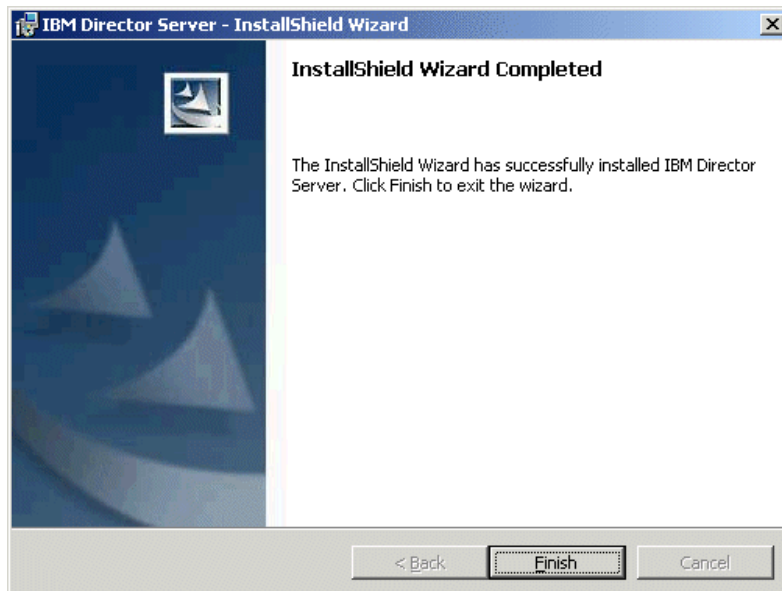

Figure 4-12 InstallShield wizard Complete window
14. Select the appropriate database and click **Next**. You will see a window similar to Figure 4-12. For our example, we selected **Microsoft Access (Jet)**.